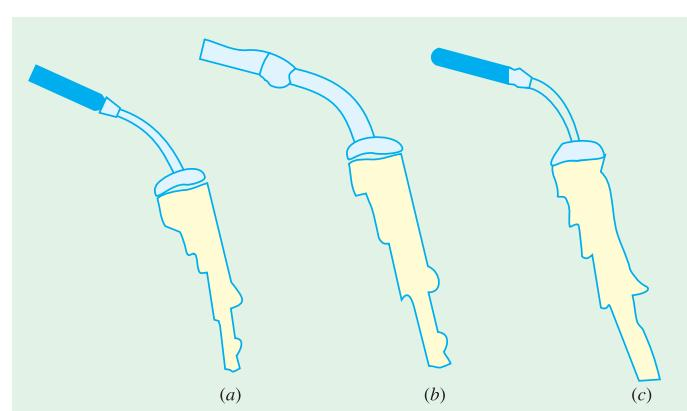

Fig. 48.25
- (iii) MIG Torches which are available in both air-cooled and water-cooled varieties. Fig. 48.25 (a) and (b) show light-weight swan-necked torches which are designed to operate upto 360 A and 400 A with CO2 as shielding gas. Fig. 48.25 (c) shows a heavy-duty water-cooled torch designed to operate upto 550 A with CO2/mixed shielding gases at 100% duty cycle.
whereas domed electrodes [Fig. 48.25 (b)] are used for non-ferrous materials. Flat domes are used when spot-welding deformation is not desired. The weld size is determined by the diameter of the electrode.